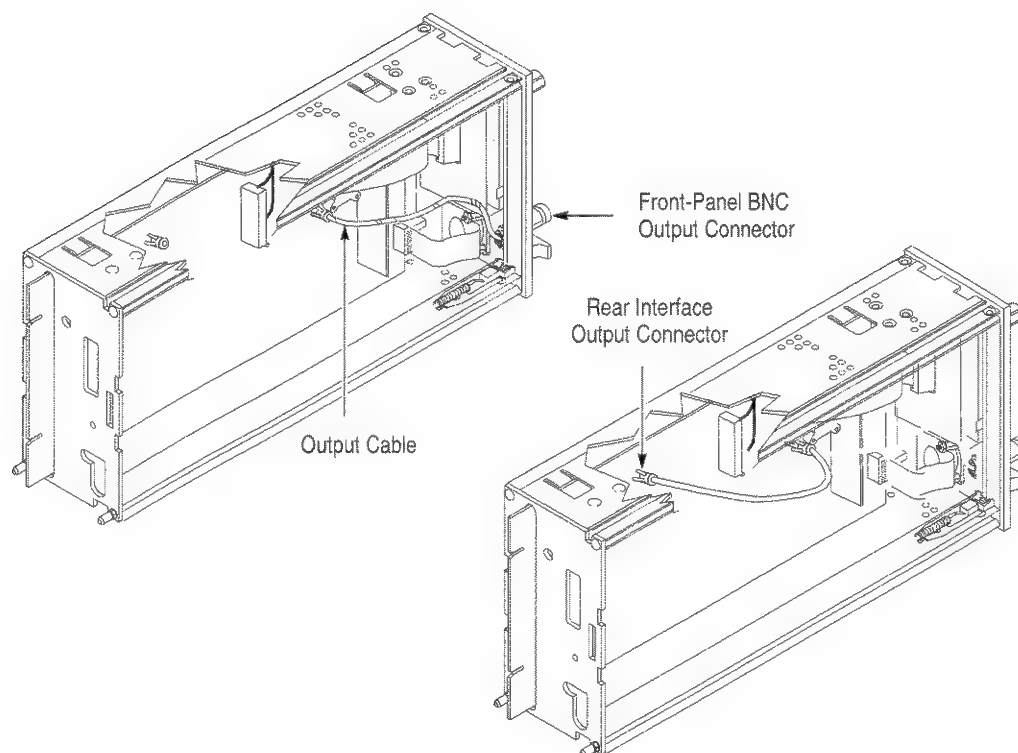

Figure 7-8: Using the Rear Interface Output Connector
Some Power Modules support an option to reroute the plug-in instrument output to the rear interface of the power module (refer to the Tektronix catalog or contact your Tektronix sales representative). You can configure the AM 503B and AM 5030 for this type of power module by following these steps. Refer to Figure 7-8 as necessary.
2. Locate the output cable with the Peltola connector that plugs into the rear of the front panel BNC output connector. Refer to Figure 7-8.
5. Taking care to prevent damage to the easily bent center conductor, insert the output cable into the rear interface output connector as shown in Figure 7-8.